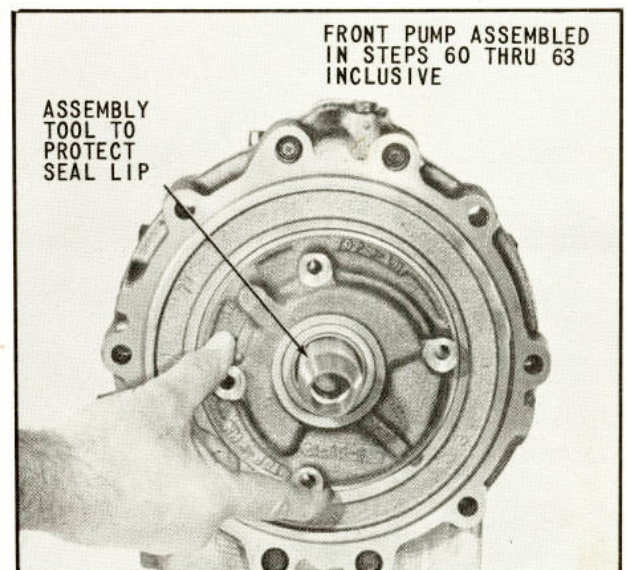

Fig. 64 Installing Pump over Seal Protector
69. With the pump driven gear properly installed in the front pump housing, assemble the housing and pump driven gear squarely over the protruding input shaft and assembly tool. A slight rotation of the pump housing and pump driven gear will allow engagement of pump gear teeth, (Fig. 64).